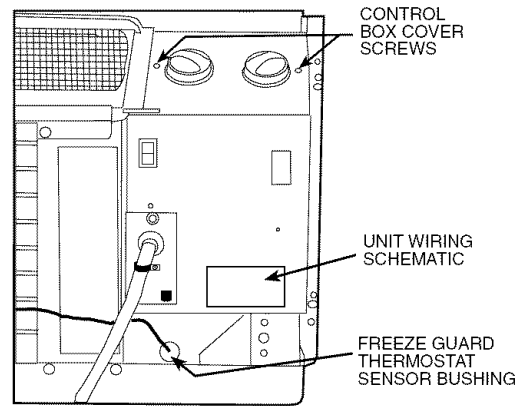

Fig. 3 — Control Box Component Location
Step 3 — Open control box by removing the 2 control box cover screws. See Fig. 3.